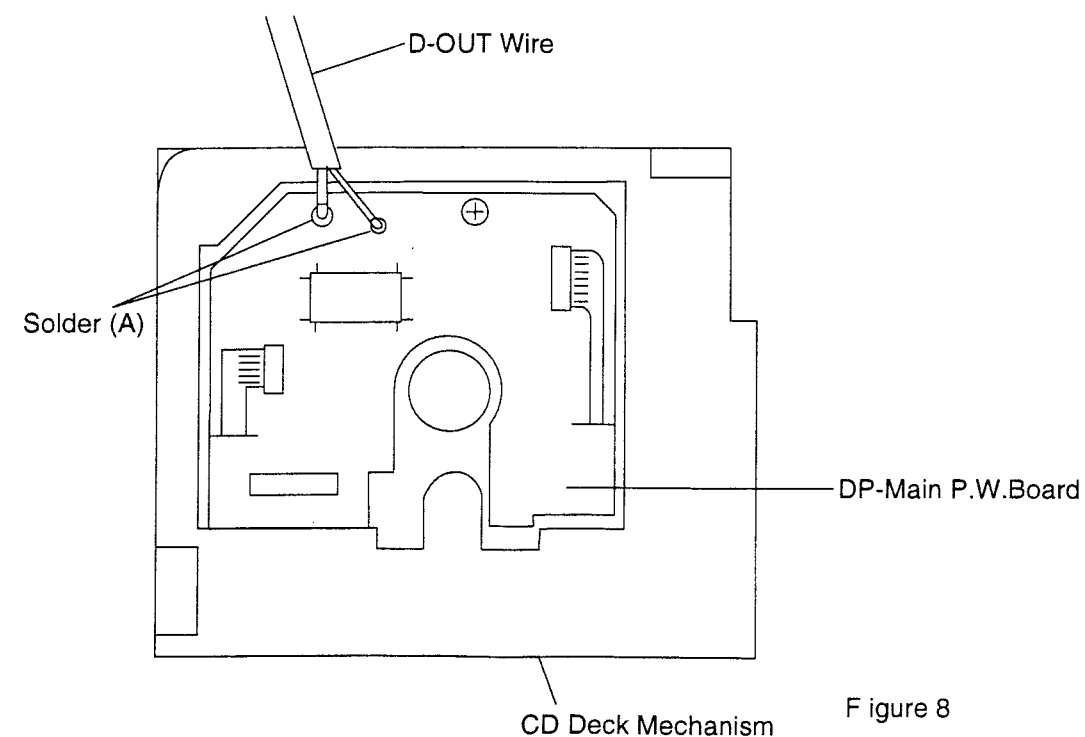

Figure 8
- (3) Remove two points of Solder (A) as shown in Figure 8, and remove D-OUT Wire.